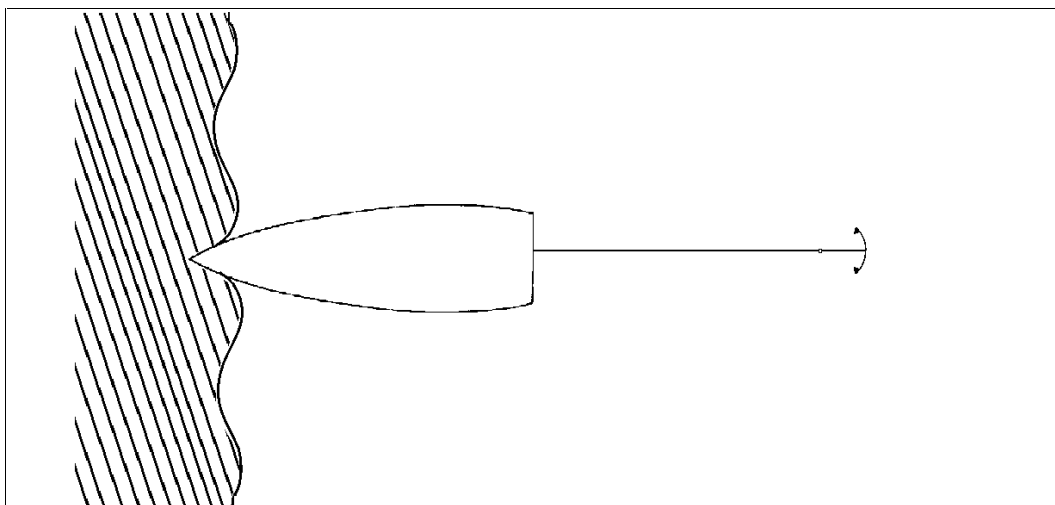

Figure 2.3 Placement of anchor for refloating (*not to scale*)
4. You can lay your anchor (or anchors) in such a position that you can haul the vessel free. Figure 2.3 shows one such arrangement. You will need a boat to transport the anchor. A second anchor (if available) can be used to back up the first anchor. As a general rule, maximum advantage will be gained by placing the anchor as far away from the vessel as possible.